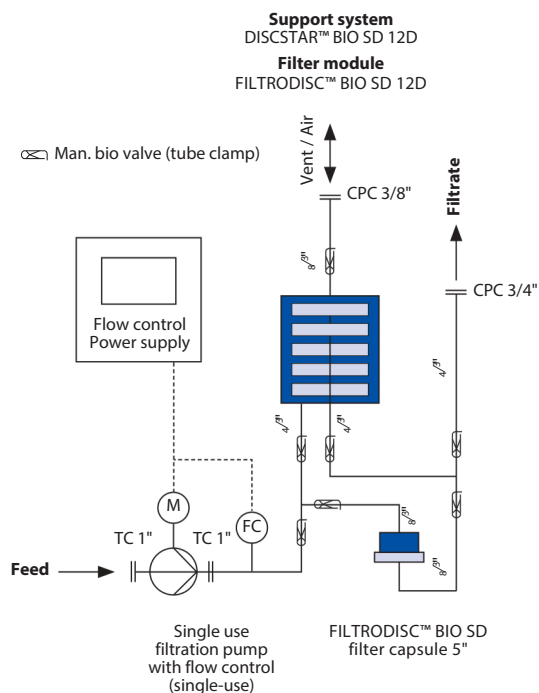

Figure 3: FILTRODISC™ BIO SD
**FILTRODISC™ BIO SD skid** The FILTRODISC™ BIO SD skid is a complete system combining a single-use pump incl. control panel, support system for 12" or 16" modules and a capsule holder for a 5" capsule. Figure 3 shows an overview of the BIO SD skid. The software can be easily integrated into the existing software environment.